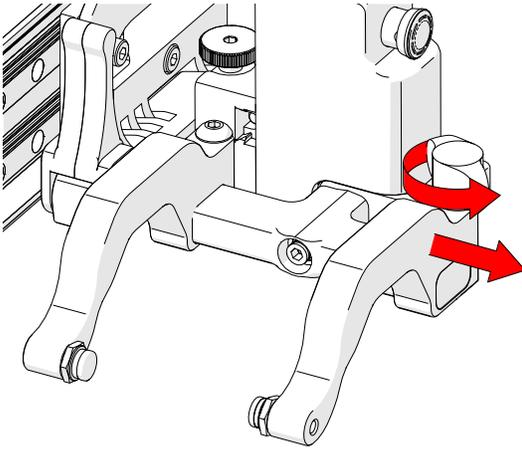

Fig. 108 - Remove outer arm
3. Loosen the probe holder adjustment knob and remove the outer probe holder arm (Fig. 108).
5. Place the wedge on the pivot button of the inner probe holder arm (Fig. 108).